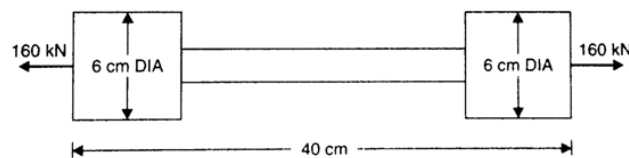

Figure 1
- (b) A brass bar having cross sectional area of  $1000 \text{ mm}^2$  is subjected to axial forces as shown in Figure 1. Find the total elongation of bar. Take  $E = 1.05 \times 10^5 \text{ N/mm}^2$ . [7M]